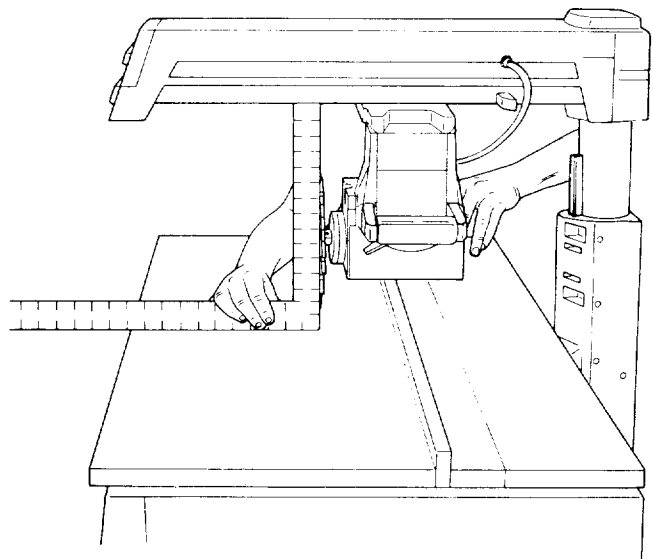

Fig. 114
3. Place the long edge of the framing square on the *table* and the short edge against the *blade* alongside the *arbor shaft*. Make sure the square is against the surface of the *blade* and not on the set of a tooth. (Figure 114)